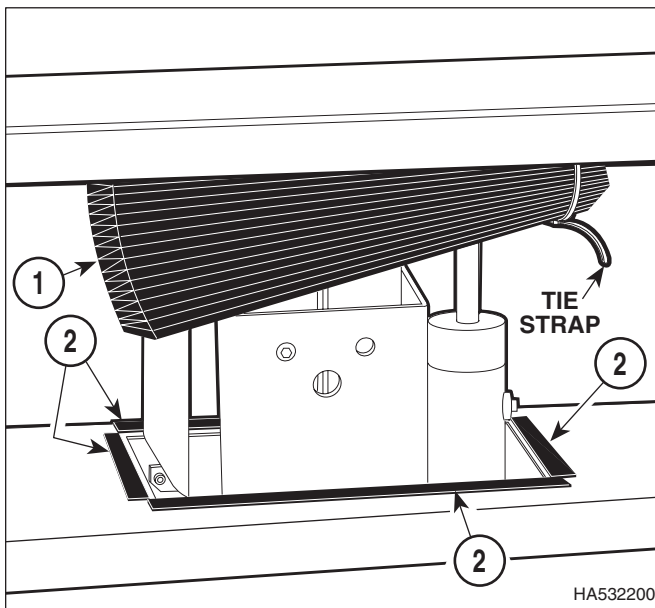

Figure 4-2. Raise Bellows For Access
- (1) Pull the bottom of the bellows (1, Figure 4-2) up from four velcro strips (2).
- (2) If necessary, tie bellows (1) up out of the way with a tie strap.